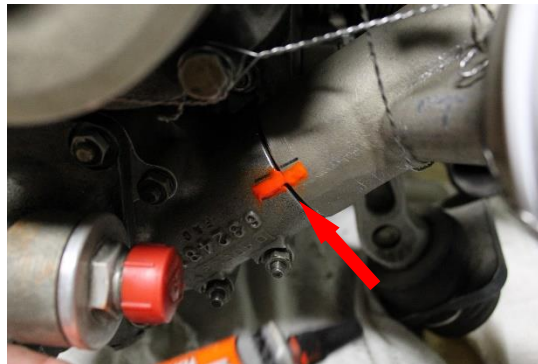

Figure 3
- b. If neither the body or oil transfer cylinder moved when tested in accordance with Paragraph 2. a, apply a bead of Torque Seal (Cross Check ITW PRO Brand or equivalent) across the gasket at the body/oil pump housing joining as shown below in Figure 3.